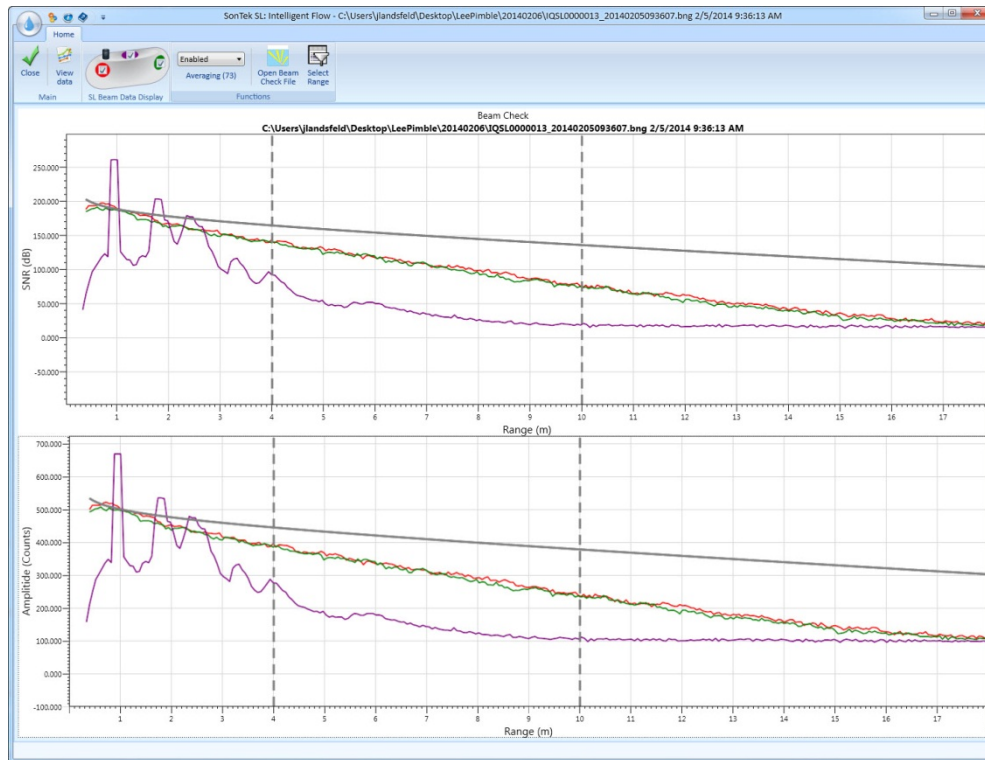

Figure 86. Beam Check window in SonTek-SL software
- Beam Check is found under Utilities → Beam Check. Once opened, a graphic will be displayed as in Figure 86.